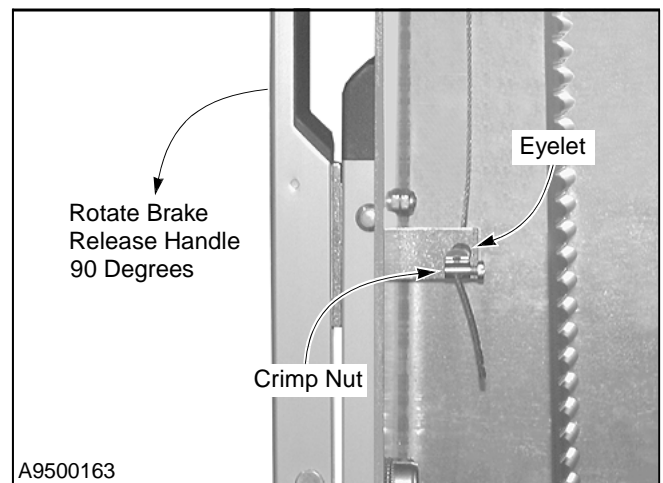

Figure 28
- With the brake release handle fully extended out or at 90 degrees, feed the cable through the eyelet in the bottom of the handle. Slide a crimp nut over the end of the cable with the nut tight against eyelet. Then tighten the setscrew — with the majority of slack removed from the cable. The crimp nut is located in the small parts carton. (See Figure 28.)